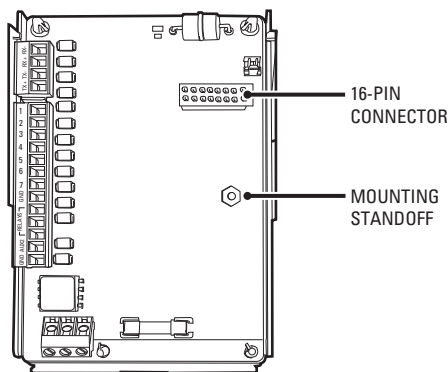

Figure 8. Spectra III/Spectra IV Circuit Board
5. Remove the plug from the 16-pin connector on the Spectra III/Spectra IV circuit board (refer to Figure 8).
8. Secure the FS85011A transmitter to the mounting standoff on the Spectra III/Spectra IV circuit board (refer to Figure 8) using the Phillips pan head screw with lock washer (supplied).